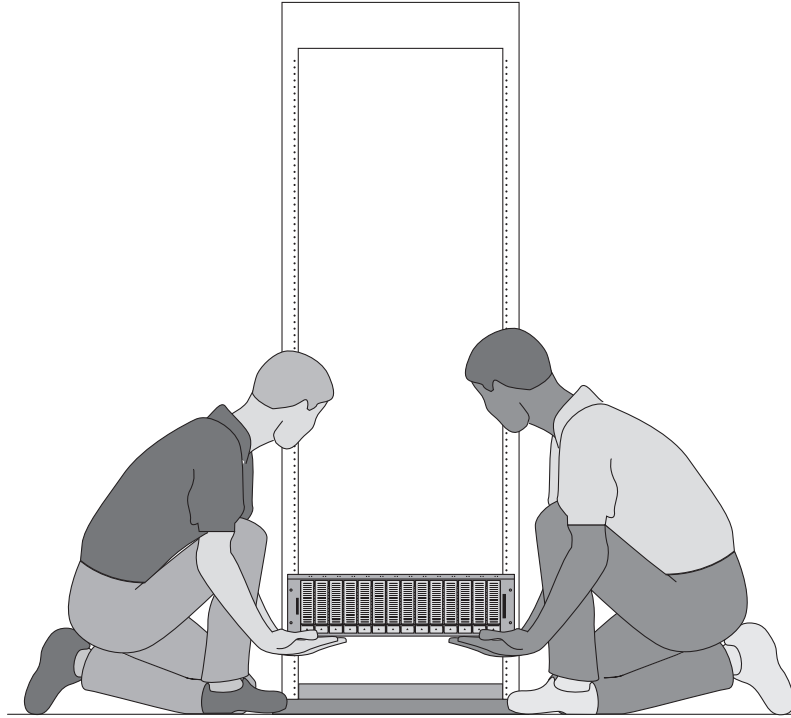

FIGURE 2-27 Positioning the Tray in the Rack
2. Using two people, one at each side of the tray, carefully lift and rest the tray on the bottom ledge of the left and right rails (FIGURE 2-27).